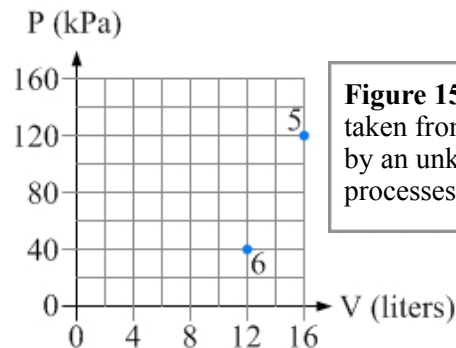

Figure 15.25: A system is taken from state 5 to state 6 by an unknown sequence of processes. For Exercise 16.
16. A system of monatomic ideal gas contains a certain number of moles of gas so that $nR = 0.200 \text{ J/K}$. The system is taken from state 5 to state 6 (see Figure 15.25) by an unknown sequence of processes. (a) What is the temperature of the system in state 6? (b) What is the work done by the gas as the system moves from state 5 to state 6? (c) What is the change in internal energy of the gas as it moves from state 5 to state 6?